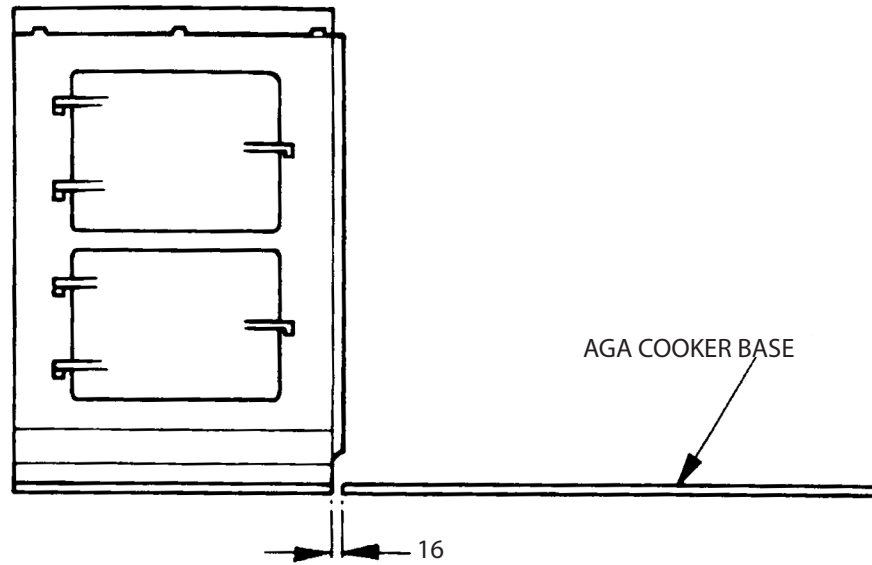

Fig. 10.1
6. Position the cooker alongside the main AGA baseplate leaving 16mm between the two bases (see **Fig. 10.1**). Check with a spirit level that the front plate is vertical and the ovens level. Shim under the module base if necessary.